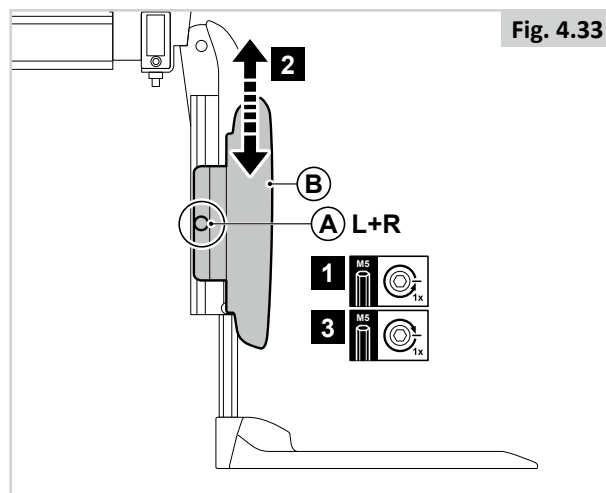

Fig. 4.33
### Central calf support height (Fig 4.33)
- As with all moving parts be careful not to trap your fingers, (Fig.4.33).